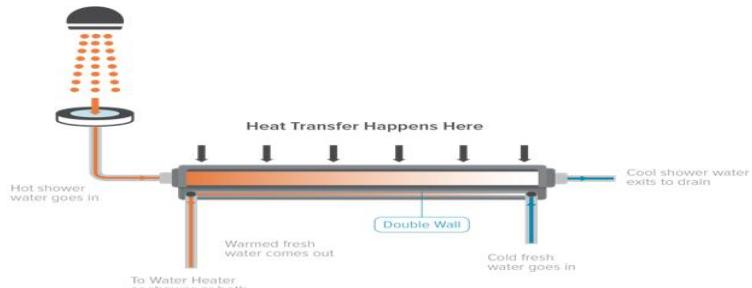

Figure 5. EcoDrain heat exchanger for use with the shower water [10].
- Figure 5. EcoDrain Heat Exchanger